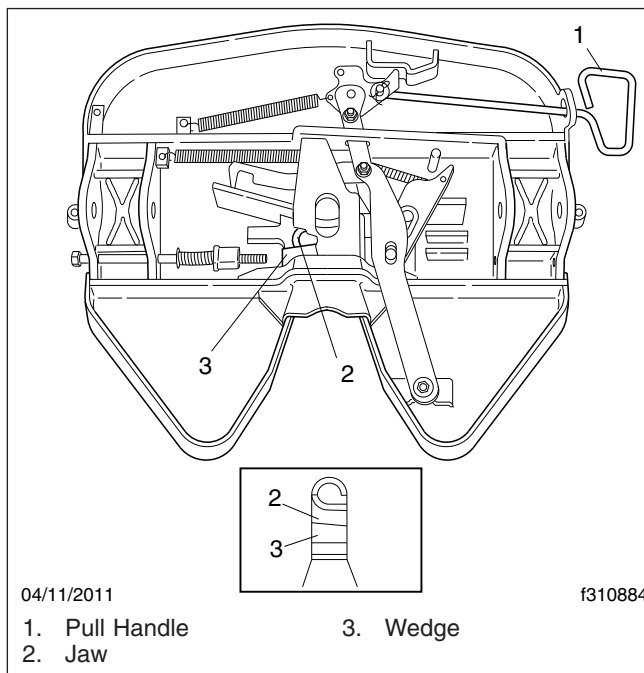

Fig. 8, Fontaine Fifth Wheel
3. Lubricate the fifth wheel prior to opening and closing it. Separate the jaw and wedge with a screwdriver, and grease the full length of their mating surfaces. Lubricate the top and bottom contact surfaces of the jaw and wedge. See **Fig. 8**. Open and close the fifth wheel several times to further distribute the grease.